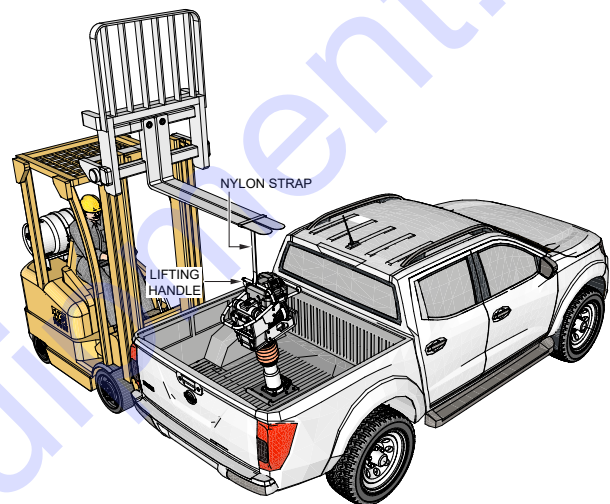

Figure 4. Rammer Lifting (Forklift/Crane)
1. When using a forklift or crane to lift the rammer, attach a suitable lifting strap to the **lifting handle** on the rammer as shown in Figure 4.